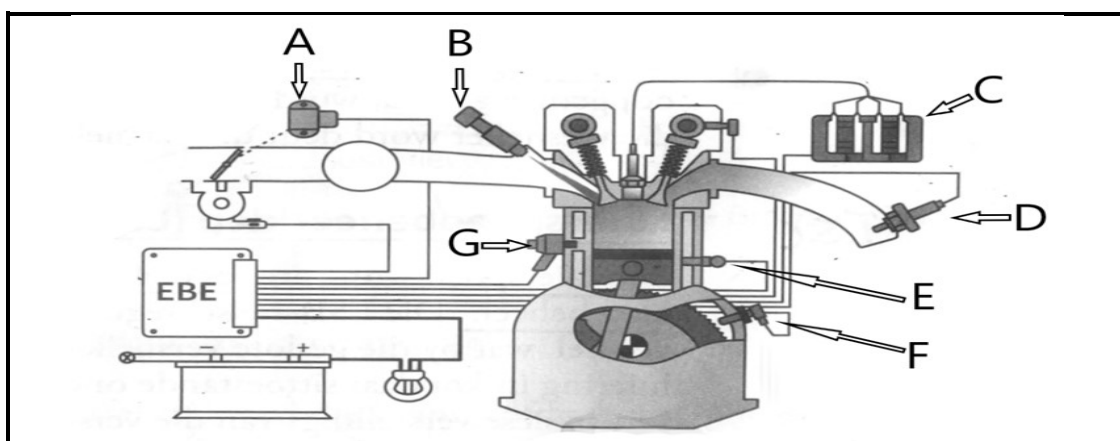

FIGURE 10.6
- 10.6 FIGURE 10.6 below shows one of the engine management systems. Study it and answer the questions that follow.
- 10.6.1 What type of ignition system is used in FIGURE 10.6? (1)
- 10.6.2 Briefly describe the purpose of the ignition system shown in FIGURE 10.6. (2)
- 10.6.3 Label the components **A–G** in FIGURE 10.6. (7)